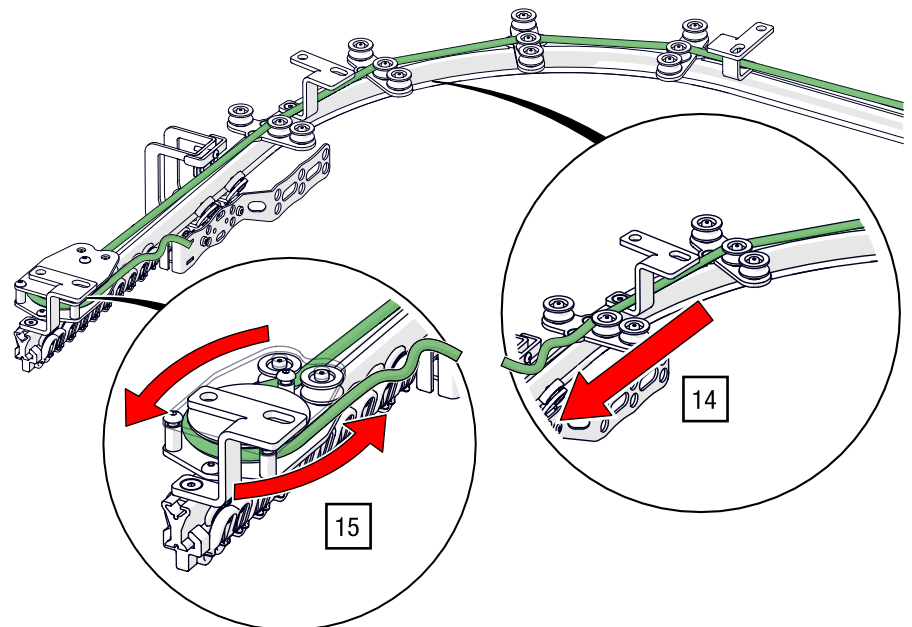

Fig. 79: Top cord operation – Guide cord end through the return pulley into the master runner (return pulley shown without cover plate).
14. Guide the cord end through the following cord guides (see Fig. 79).
15. Guide the cord end along the inside of the guide rollers through the return pulley (see Fig. 79).